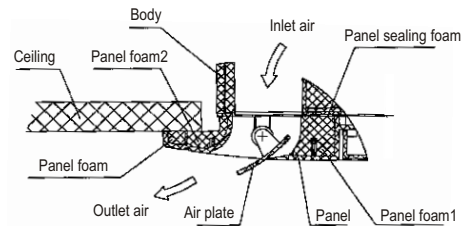
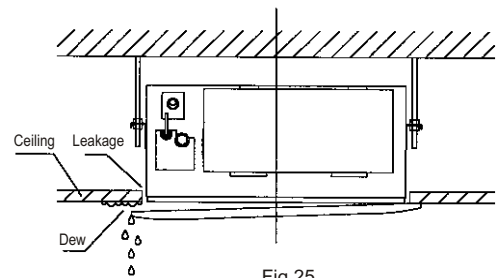
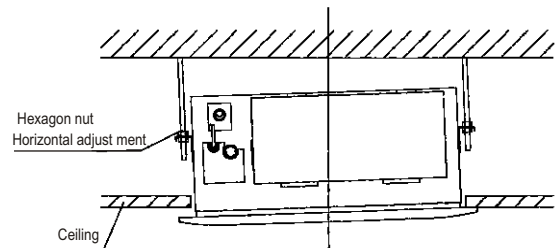

Fig.24
Fig.25
Fig.26
- Keep fastening the screws under the panel hooks, until the thickness of the sponge between the body and the panel's outlet has been reduced to about 0.16~0.24in. The edge of the panel should contact with the ceiling well. (Refer to Fig.24) Malfunction described in Fig.25 can be caused by inappropriate tightness the screw. If the gap between the panel and ceiling still exists after fastening the screws, the height of the indoor unit should be modified again. You can modify the height of the indoor unit through the openings on the panel's four corners, if the lift of the indoor unit and the drainpipe is not influenced (refer to Fig.26-right).
(3) water-pump drainage